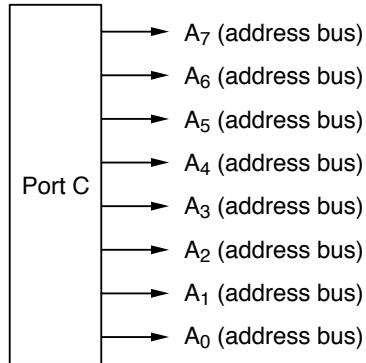

Figure 9-79 Pin Functions in Modes 1, 3, 5, and 6
(1) Pin Functions in Modes 1, 3, 5, and 6: Port C is used for address output (A₇ to A₀). The PCDDR settings are ignored. Figure 9-79 shows the pin functions in modes 1, 3, 5, and 6.